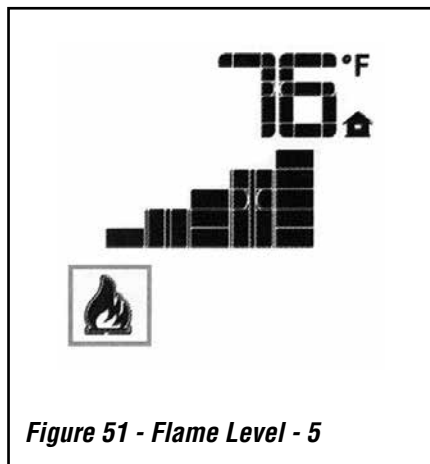

Figure 51 - Flame Level - 5
The system has six (6) flame levels. See **Figure 51** on **Page 38** for an example. With the system on, and the flame level at the maximum in the appliance, pressing the Down Arrow Key once will reduce the flame height by one step until the flame is turned OFF.